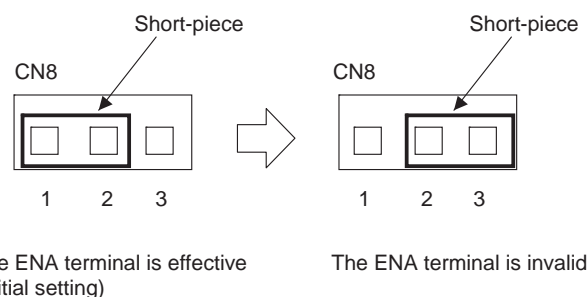

Fig.4.3 Setting of ENA
- If you do not use ENA , remove the short-piece to pin 2 and 3 at CN8 shown in Fig.4.3.